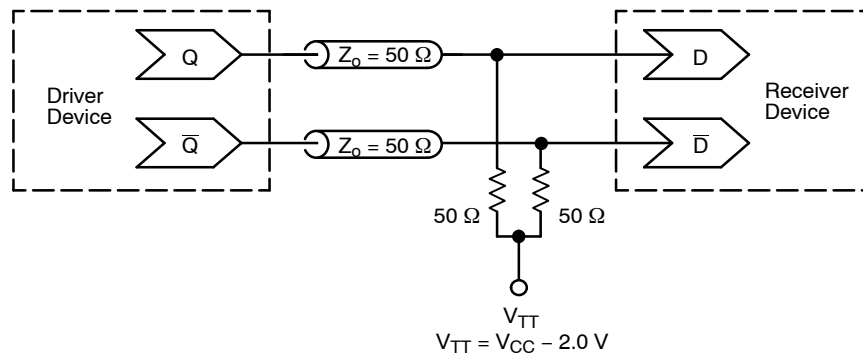

Figure 9. Typical Termination for Output Driver and Device Evaluation
2. All loading with 50  $\Omega$  to  $V_{CC} - 2.0\text{ V}$  (see Figure 9).
2. All loading with  $50\ \Omega$  to  $V_{CC} - 2.0\text{ V}$  (see Figure 9).
1. Measured using a 750 mV source, 50% duty cycle clock source. All loading with  $50\ \Omega$  to  $V_{CC} - 2.0\text{ V}$  (see Figure 9).